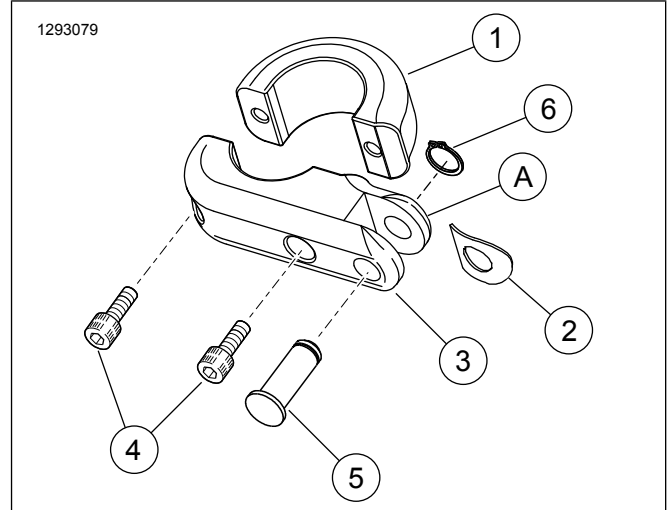

Figure 1. Service Parts: Engine-Guard Footpeg Billet Mounting Kit
See Figure 1 and Table 1.
1. See Figure 1. Position footpeg mount (3) and clamp (1) on engine guard.
2. Position footpeg mount (3) to allow footpeg to fasten on inboard side of engine guard.
3. Attach screws (4) to fasten footpeg mount in a comfortable location on engine guard.